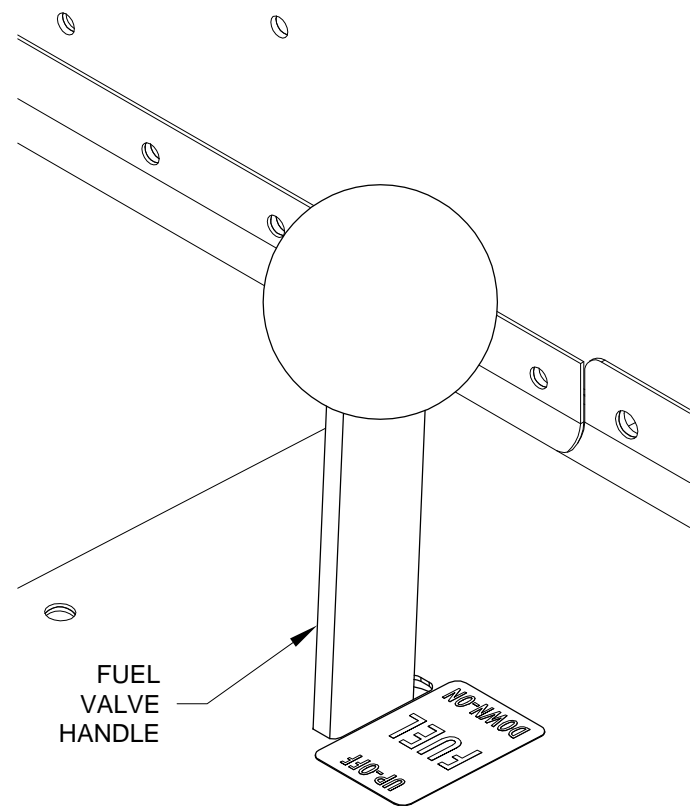

FIGURE 1: CLOSE FUEL VALVE
Step 1: Move fuel valve handle to the "UP-OFF" position. See Figure 1.